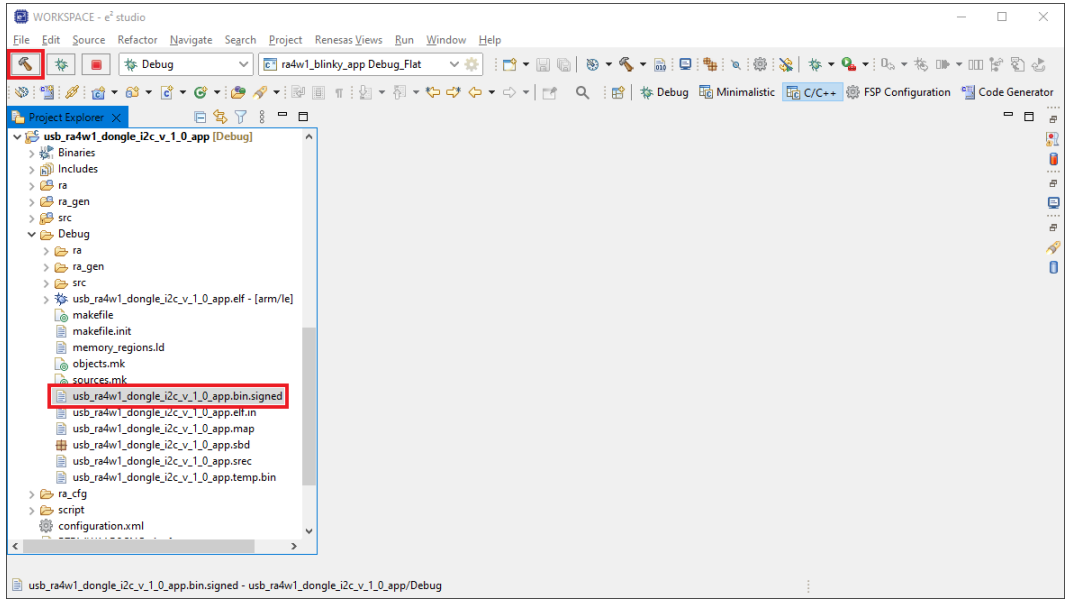

Figure 27. Generating the Application Image
17. Ensure the project is active (selected in Project Explorer), on the top menu select **Project > Build Project** and wait until the process completes (Figure 27). Then, in **Project Explorer** expand the **Debug** folder. The